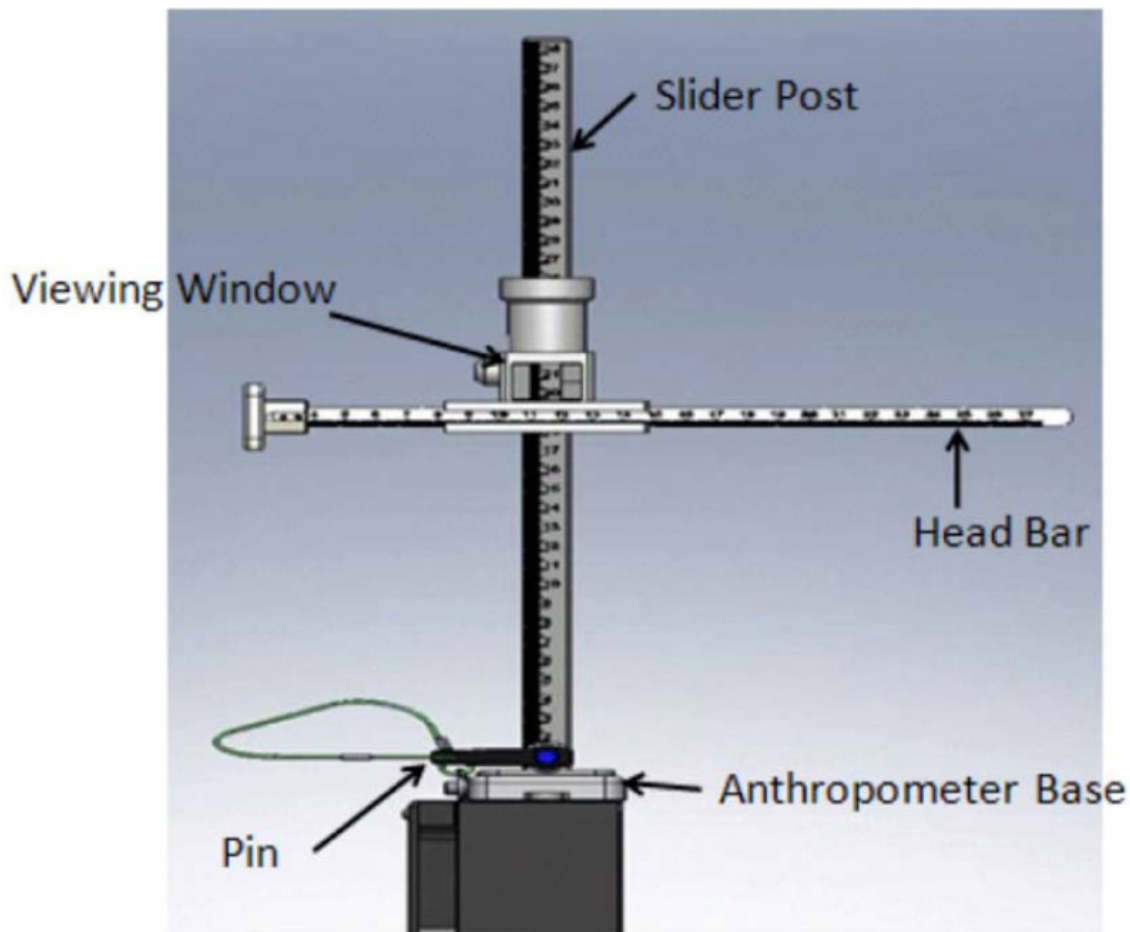

Figure 8. Head Bar Connected to Slider Post.
- 5.5 Retrieve Head Bar from tmpy stow and insert into slot on Slider Post, ensuring that numbers on the Head Bar and slot on the Slider Post are facing the D2Xs Camera. Refer to Figure 8.